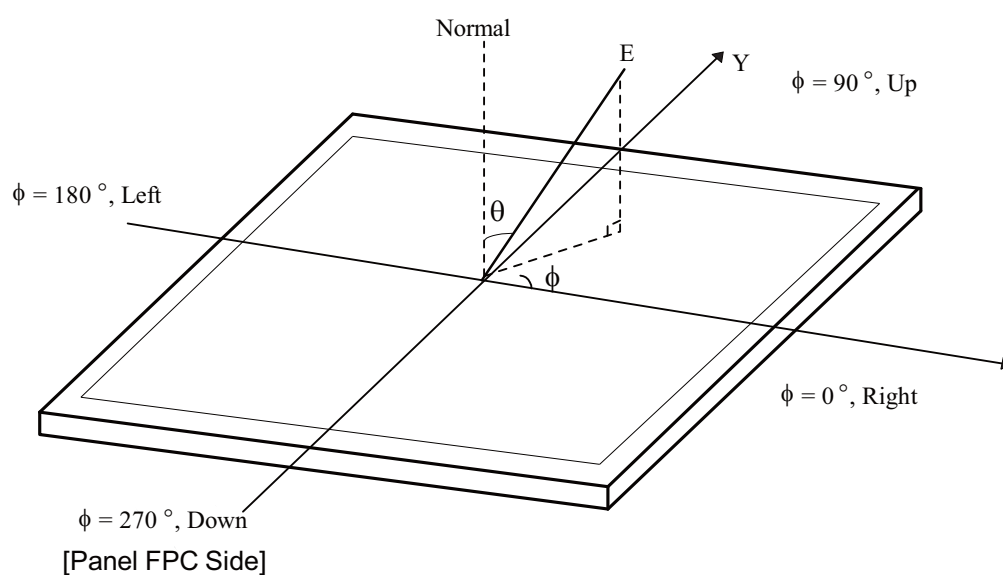

FIG. 4 Viewing Angle
8. Viewing angle is the angle at which the contrast ratio is greater than 10. The angles are determined for the horizontal or x axis and the vertical or y axis with respect to the z axis which is normal to the LCD module surface. For more information, see the FIG. 4.